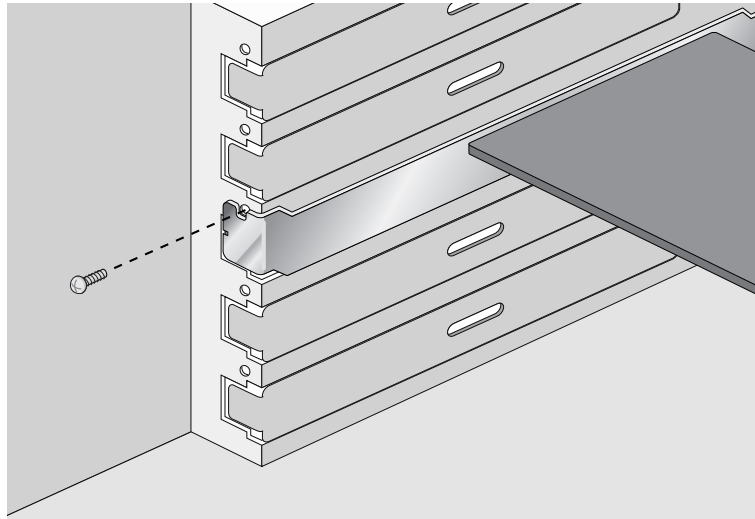

Figure 14. Securing the Adapter with a High-profile Bracket
6. Secure the network adapter card to the chassis with a Phillips-head screw (not provided). See Figure 14 on page 40.